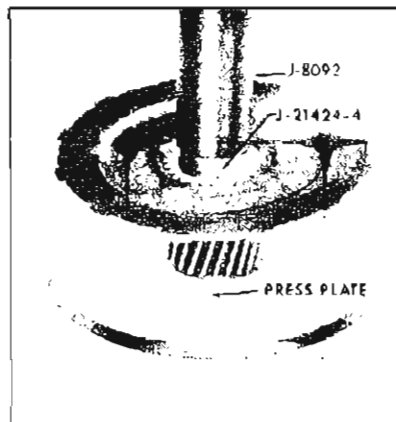

Figure 5-222
13. Check low sun gear and flange assembly bushing for nicks, severe scoring, or wear. If bushing replacement is necessary proceed as follows: Support low sun gear assembly on press plate using Tool J-21424-4 and Drive Handle J-8092 press out bushing. See Fig. 5-222.